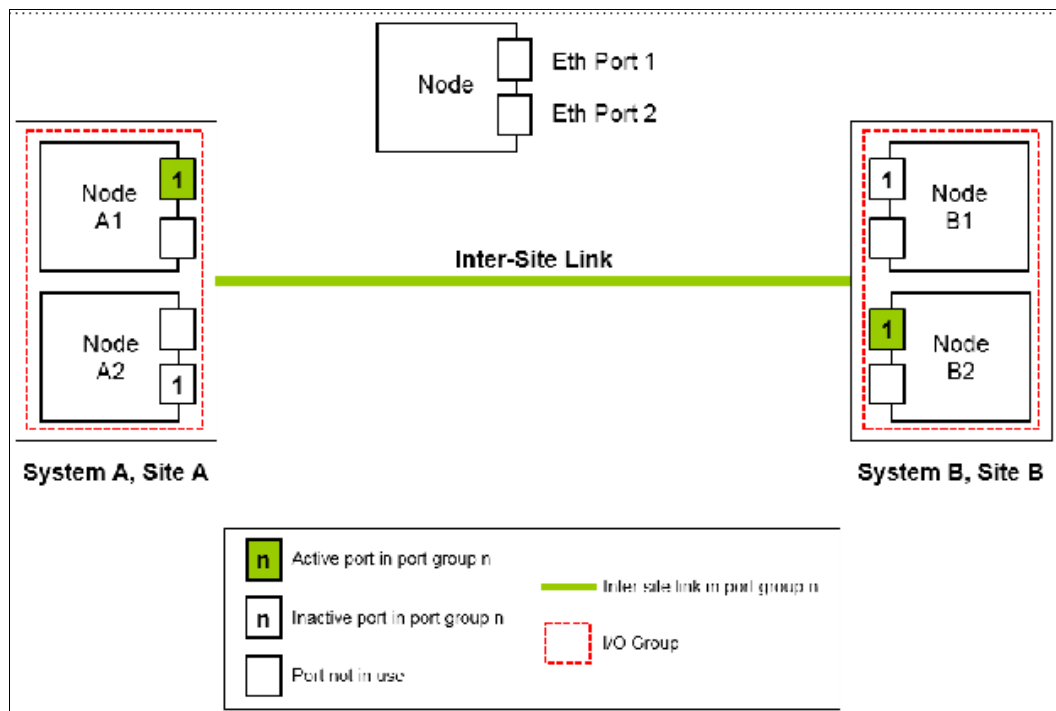

Figure 10-99 One Remote Copy group on each system and nodes with failover ports configured
- Two 2-node systems in IP partnership over a single inter-site link (with failover ports configured), as shown in Figure 10-99 on page 682 (configuration 2).
As shown in Figure 10-99, two systems are available: